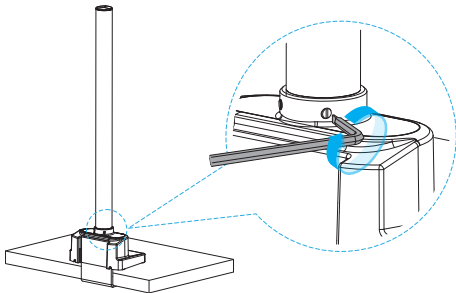

Figure 6
1. Fully **Screw-in** the **Pole** into the **Pole Base** by turning it **Clockwise**. Use the **Flat Head** side of the **3mm Hex Key with Flat Screwdriver** to tighten the **Screws** on the **Pole Base** and secure the **Pole** in place. (Figure 6)